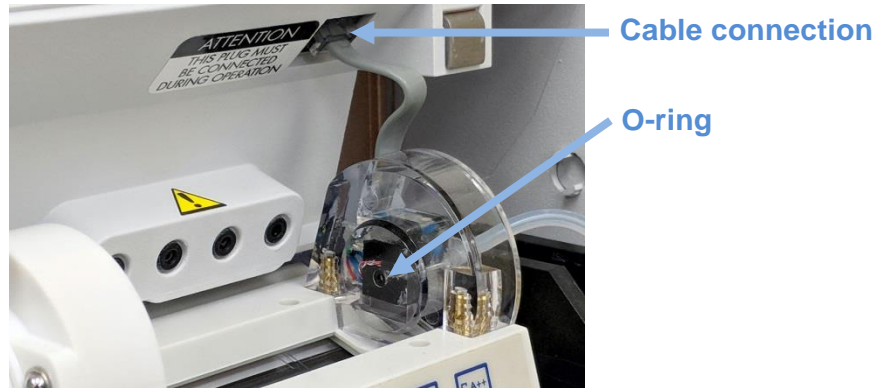

Figure 1-20 Sample sensor
- Locate the sample sensor on far right of the electrode tray. Check that the cable is connected correctly to the analyzer. (Figure 1-20)
- Check that an O-ring is present on the left side of the sample sensor. (Figure 1-20)